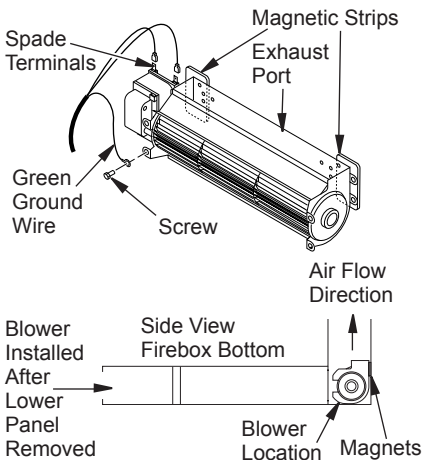

Figure 15 - Blower Model BK
1. Be certain that all wire terminals are securely attached to terminals on blower motor and that the screw retaining the green ground wire is tight (see Figure 15).
2. Place blower against lower rear wall of firebox outer wrapper with exhaust port directed upward. Depending on your model, you may have to carefully route the blower assembly past controls and brackets and position blower inside back opening. The blower will be held in position against the back wall by magnets incorporated into blower housing (see Figure 15).